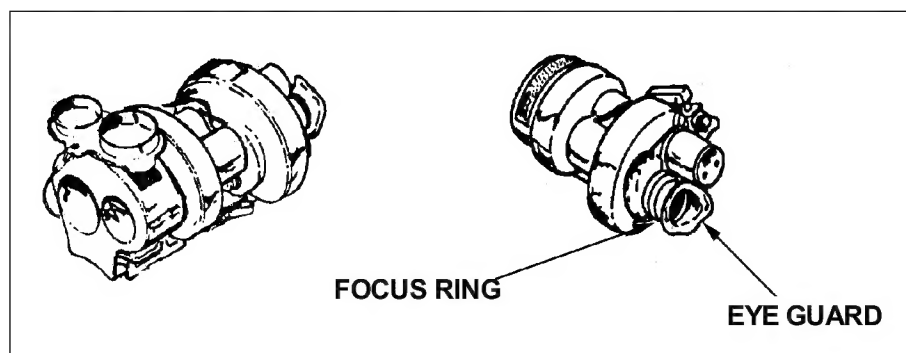

Figure 1-3. Daysight lens and rubber eye guard.
(5) The daysight's lens is a 6-power telescope. It magnifies the image across a 6-degree field of view (FOV) to help the gunner locate, identify, and track targets. A fitted and molded rubber eye guard protects the gunner's eyes and allows him to adjust rapidly to the sight (Figure 1-3). The infrared receiver consists of an objective lens assembly, graded filter, infrared detector, and nutator mirror. The sensor detects the missile's infrared output while discriminating against background signals. It detects any deviations or excursions of the missile from the gunner's LOS.